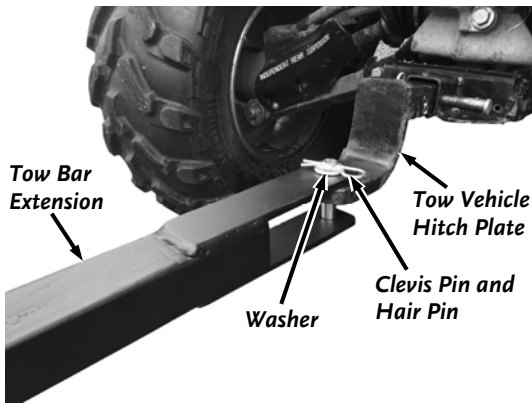

Figure 9
2. Align the Tow Hitch to the hole in the center of your Hitch Plate with the top portion of the Tow Hitch above the Hitch Plate and the bottom portion below (Figure 9).